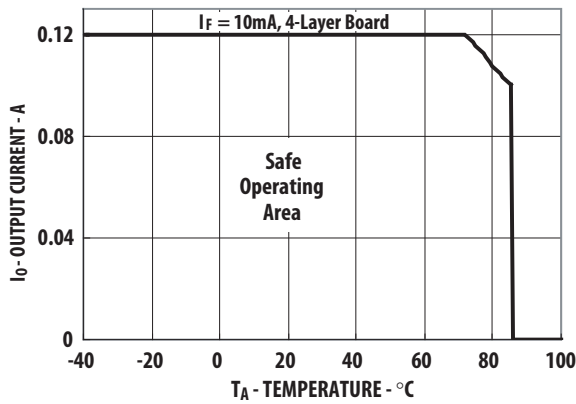

Figure 1. Maximum Output Current Rating vs Ambient Temperature (ASSR-4110-003E)
- For derating, refer to Figure 1, 2, 3 and 4.
Figure 1, 2, 3 and 4 specify the maximum average output current allowable for a given ambient temperature. The maximum allowable output current and power dissipation are related by the expression  $R_{ss} = P_o(\max)/(I_o(\max))^2$  from which  $R_{ss}$  can be calculated. Staying within the safe area assures that the steady state MOSFET junction temperature remains less than  $125^\circ\text{C}$ .